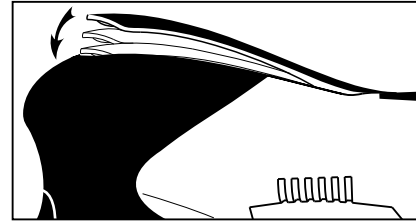

figure 4
2. Intermediate speeds between Zero (0)/min (OPM) and the set Maximum Speed can be used with intermediate Lever positions.- see figure 4.